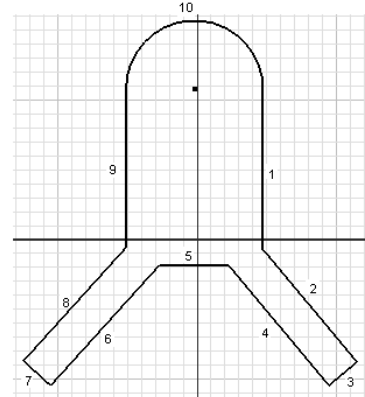

Figure 3-61 Initial sketch with the geometries numbered
1. Choose **Line** from the **Draw** panel of the **Sketch** tab to draw the outer loop, as shown in Figure 3-61. As mentioned earlier, you should draw the inner loop after drawing and dimensioning the outer loop. This is because once the outer loop is dimensioned, you can draw the inner loop by taking the reference of the outer loop.
You can draw the arc within the **Line** tool. You can also use the temporary tracking option for drawing this sketch. For your reference, the geometries in the sketch are numbered, see Figure 3-61.